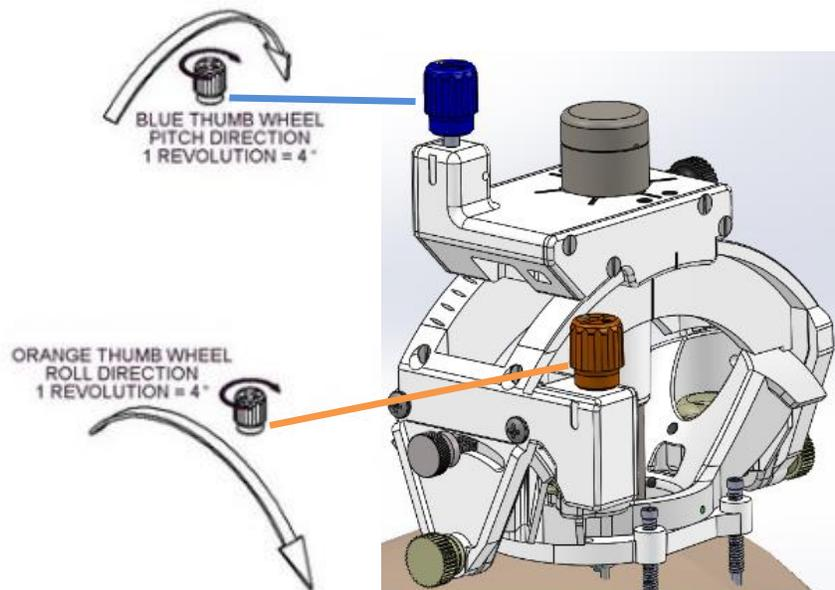

Figure 19: SMARTFrame Array Thumbwheel Directions
2. The thumb wheels are color coded: Pitch is Blue, Roll is Orange. **See Figure 19.**